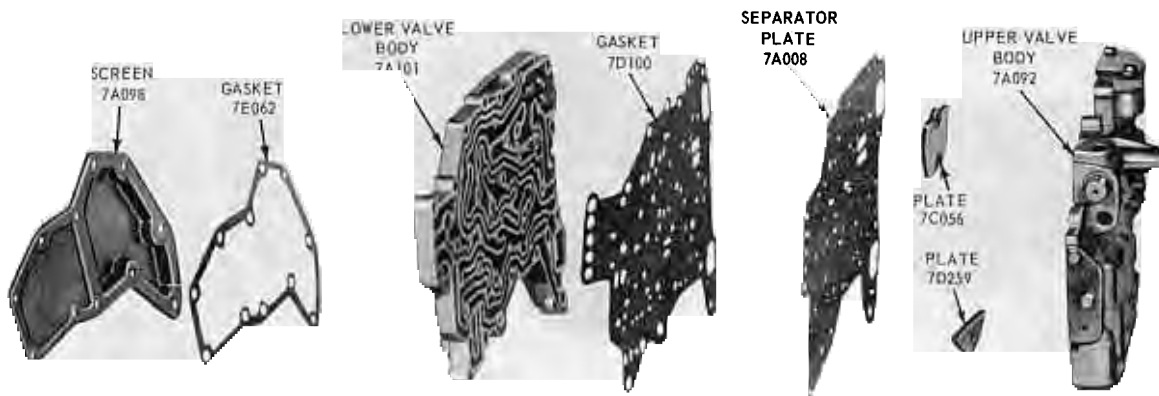

FIG. 37—Upper and Lower Valve Bodies Disassembled
1. Remove the nine screws that attach the screen to the lower valve body (Fig. 37) and remove the screen.